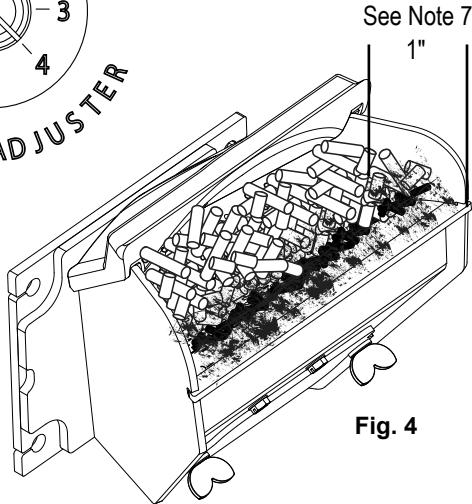

Fig. 4
High output is limited by the feed rate setting. The control will feed what it needs to meet the demand, **UP TO** the rate allowed by the Feed Adjuster dial setting. The unit's maximum burn rate should not create less than 1" of ash on the burn pot front edge (Fig. 4). Overfeeding is not a safety concern, but fuel may be wasted if unburned pellets fall into the ash pan.
This allows for automatic ignition upon start-up only. The unit can then be set at any desired setting. The heat output and fuel consumption will remain constant regardless of room temperature (Fig 2). The unit's maximum feed rate should not create less than 1" of ash on the burn pot front edge (Fig 4).
7. Setting the feed adjuster # for maximum burn: With the unit burning in "AUTO", turn to "Stove Mode" and put the fan on "H". Set the Temperature Dial to #7. Allow the unit to burn for about 30 minutes and check ash on front of burn pot. Fig. 4. If the ash line is larger than 1", turn the feed adjuster from #4 to #5. Allow another 30 minutes of burn time and check again. If, at #6 setting, a 1" or less ash bed is not obtainable, it is not a problem. The 1" ash bed is only a maximum burn rate and at most normal settings the ash bed will be larger.